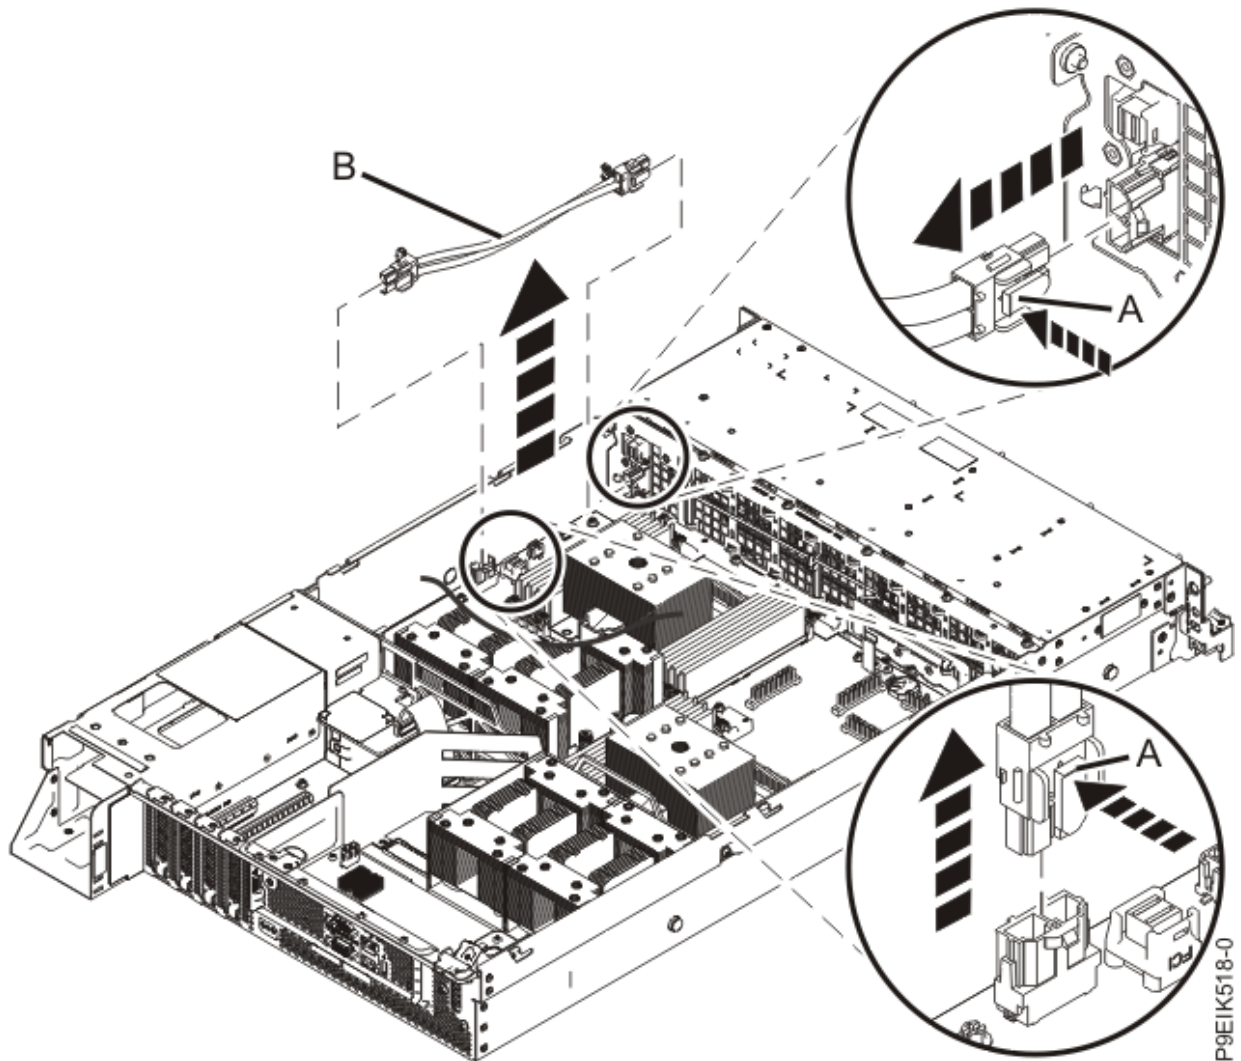

Figure 82. Removing the fan power cable from the system
3. Grasp the connector end of the fan power cable that is connected to the power riser. See **(A)** in Figure 82 on page 90.